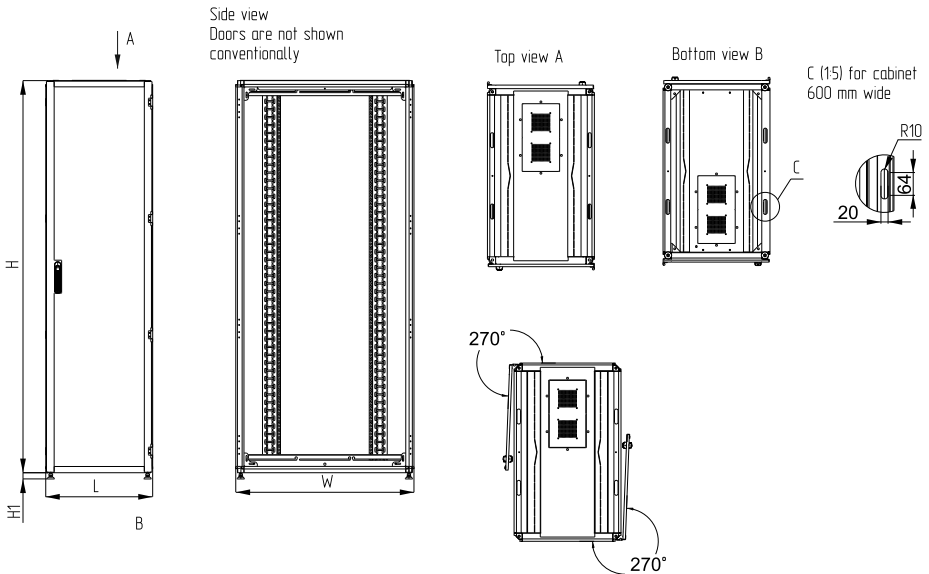

Figure 1
2.2 Overall dimensions of the cabinet are shown on the figure 1 and in table 2.